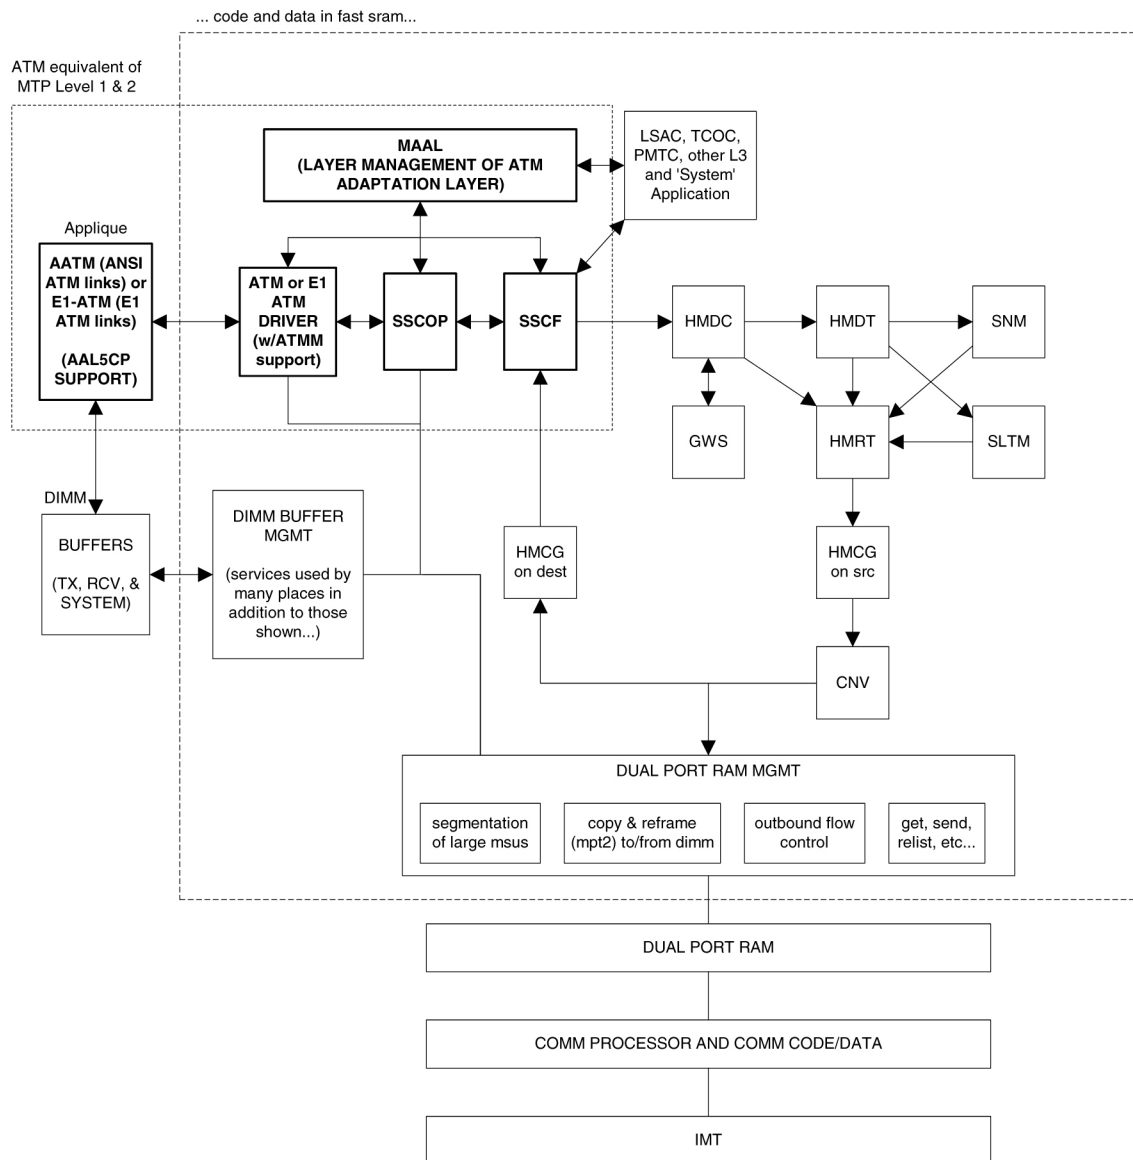

Figure 36: Functional Block Diagram of ATM High-Speed Signaling Link
A functional block diagram of the ATM high-speed signaling link is shown in Figure 36: Functional Block Diagram of ATM High-Speed Signaling Link.
The following sections provide more details for each of the new applications/processes (indicated by the bold boxes in *Figure 36: Functional Block Diagram of ATM High-Speed Signaling Link*) required for the ATM high-speed signaling link implementation. These sections will include information such as:
- support for the E1, ATM, and AAL5CP layers of the ATM high-speed signaling link protocol stack as indicated in Figure 36: Functional Block Diagram of ATM High-Speed Signaling Link.